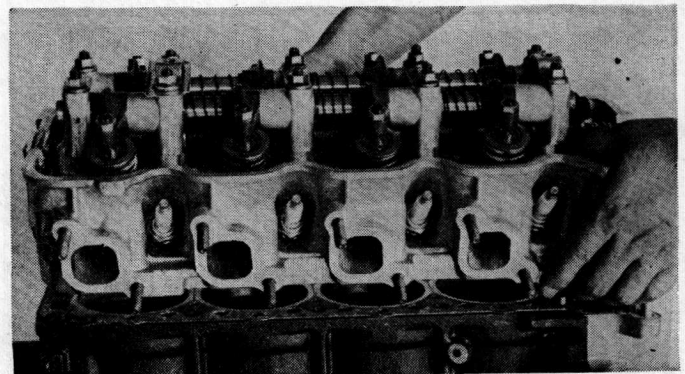

Fig. 36 Removing the Cylinder Head
- (4) The cylinder head assembly is properly positioned with two dowel pins, front and rear, to the cylinder block. When removing, be careful not to slide it nor twist the sprocket and chain. (Fig. 36)